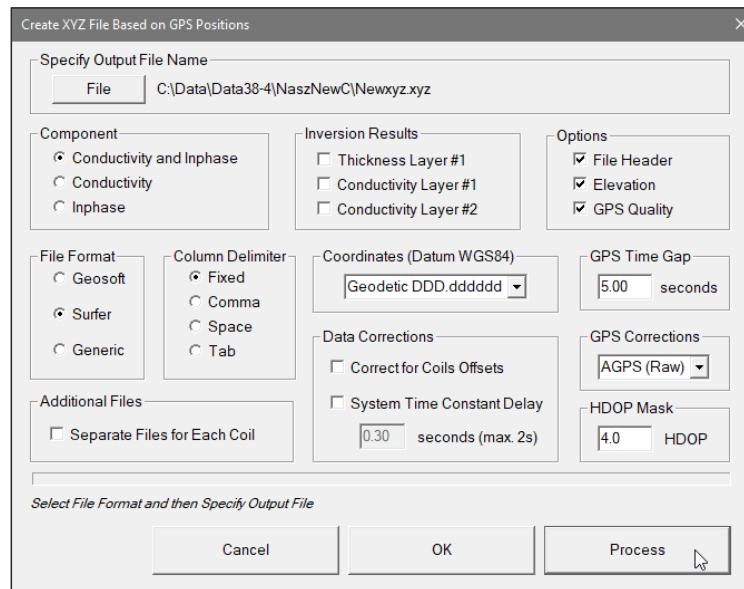

Figure 2.22 Create XYZ File Based on GPS Positions dialog
- Select **Export Files | Create GPS-Positioned XYZ File** to open the Create XYZ File Based on GPS Positions dialog (Figure 2.22).